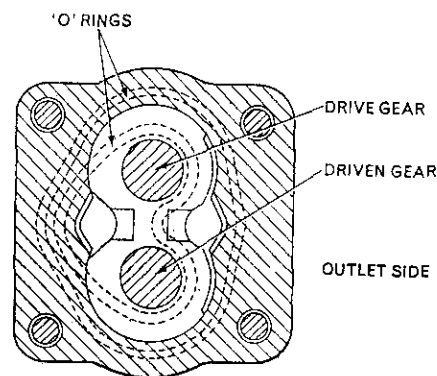

Fig. 8—Drawing showing correct installation of gears and bearing blocks in pump body. View is from rear (flanged) end of pump body.
Install flow control valve (3), spring (4) and plugs (1 and 13) with new "O" rings (2 and 14). Install pressure relief valve (10), spring (9) and plug (7), being sure that all shims (6) are in plug and using new "O" ring (8). Assemble pump gears to bearing blocks (use Fig. 8 as a guide, if necessary) and insert the unit into pump body. Be sure the two bolt rings (hollow dowels) are in place in pump body, then position the front cover on body. Place the rear plate (18—Fig. 7) at rear of body and install rear cover. Tighten the four cap screws (throughbolts) to a torque of 13-17 Ft.-Lbs. Install the pump drive gear key, drive gear, tab washer and nut. Tighten the nut to a torque of 55-60 Ft.-Lbs. and bend tab of washer against flat on nut.